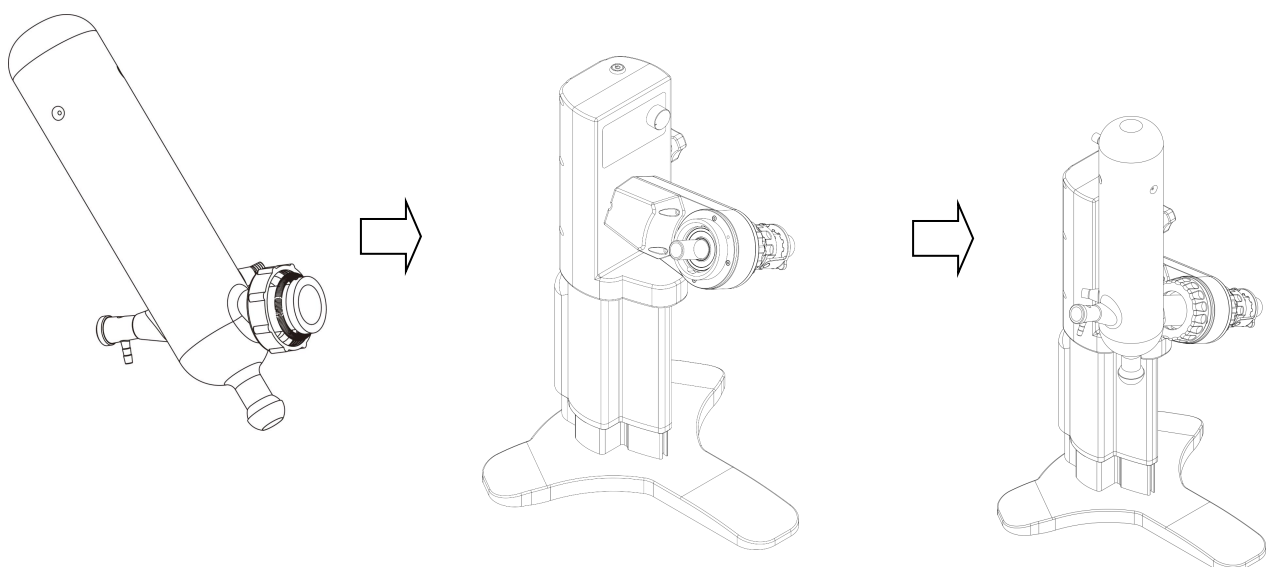

Figure 11
(3) The condenser interface is covered with a condensation fixing cover (Figure 7: 2) and a condenser fixing compression spring (Figure 7: 13). The bottle surface of the condenser interface is aligned with the main and auxiliary sealing rings in the machine head and tightened at the same time. (See Figure 11)